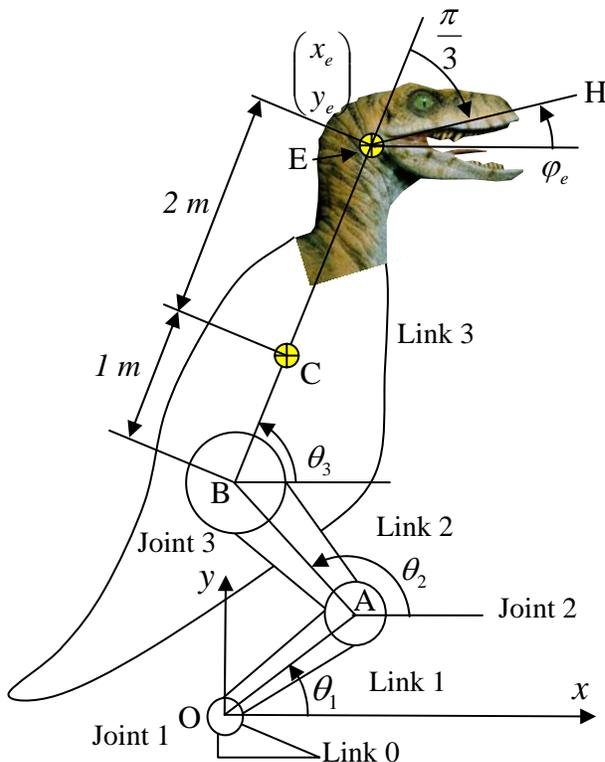
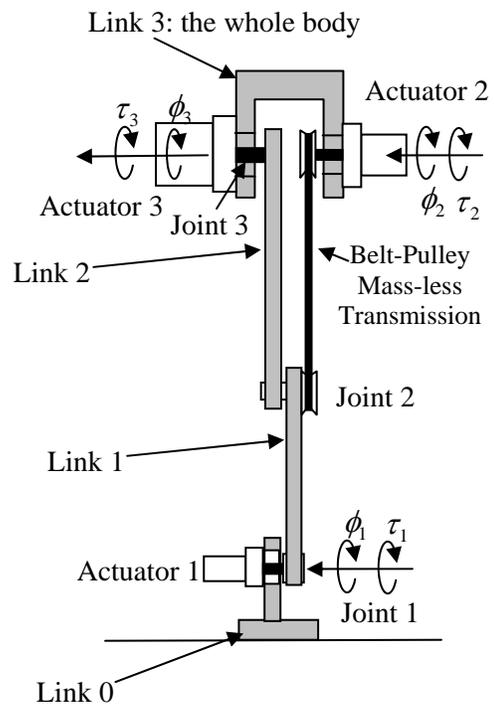

Figure 1 Overall structure of dinosaur robot
Figure 2 Actuators and leg mechanism
The MIT Mechanical Engineering is developing a dinosaur robot for a local science museum. Figure 1 shows a schematic of the robot, having three degrees of freedom. The joint angles θ_1 , θ_2 and θ_3 are all measured from the positive x axis fixed to the floor, and the link lengths are $\overline{OA} = \overline{AB} = 1\text{ m}$. The head of the dinosaur is at Point E $(x_e, y_e)^T$, which is 3 meters from Joint 3 (Point B), and its orientation φ_e is measured from the positive x axis to line EH, the head centerline. Note that line EH bends down $\pi/3$ from line BE, as shown in the figure. Answer the following questions.
For the rest of the questions, refer to Figure 2 along with Figure 1, depicting the actuators and transmission mechanisms. Actuator 1 generates torque τ_1 between link 0 and link 1. Note that the body of Actuator 1 is fixed to link 0, while its output shaft is connected to link 1. Actuator 2 is fixed to Link 3, and its output torque τ_2 is transmitted to Joint 2, i.e. the knee joint, through the mass-less belt-pulley system with a gear ratio of 1:1. Actuator 3 is fixed to Link 3, while its output shaft is connected to Link 2. All actuator torques τ_1 , τ_2 , and τ_3 are measured in a right hand sense, as shown by the arrows in the figure. Displacements of the individual actuators are denoted ϕ_1 , ϕ_2 , and ϕ_3 are measured in the same direction as the torques.
- d). The body of the dinosaur weighs 2,000 kg. The center of mass is at Point C, which is 1 meter from point B on line BE, as shown in Figure 1. How much actuator torques τ_1 , τ_2 , and τ_3 are needed to bear the weight of the body at the configuration of $\theta_1 = \pi/4$, $\theta_2 = 3\pi/4$, and $\theta_3 = \pi/3$. Ignore friction and the mass of the leg.